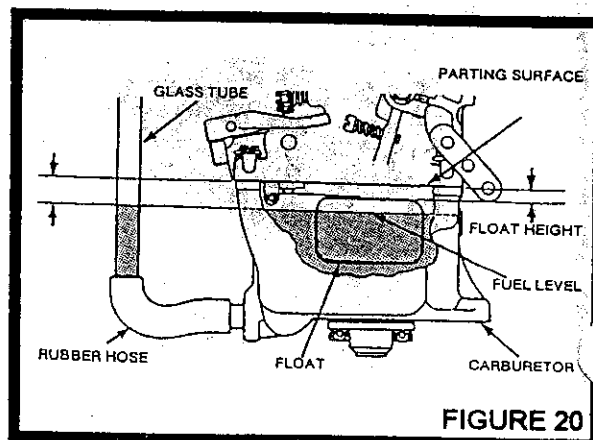

FIGURE 20
(See Figure 20)
E. With fuel supplied to the carburetor as shown in Figure 20, operate the throttle lever for several strokes to fill the accelerating pump and passages. Then close the throttle, open it fully again, and hold it for a few seconds. If the accelerating pump is operating correctly, a solid stream of fuel will be discharged from the accelerating pump discharge tube or jet and will gradually die away after the spring on the pump plunger reaches its limit.